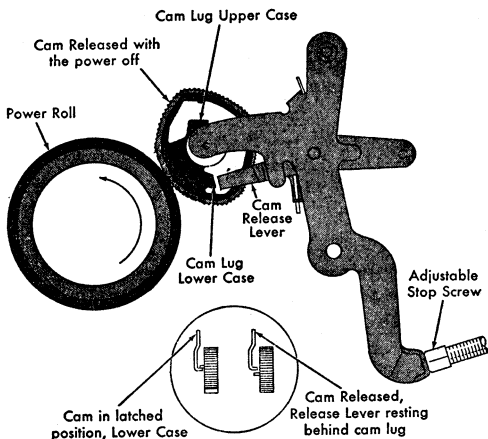

Figure 27. Shift Cam
3. **CAM CLEARANCE** is observed by tripping the cam with the power off and noting that the cam release lever lug comes to rest behind the cam lug with a clearance equal to the thickness of the cam lug. To obtain this clearance adjust the cam stop screw (Figure 27).